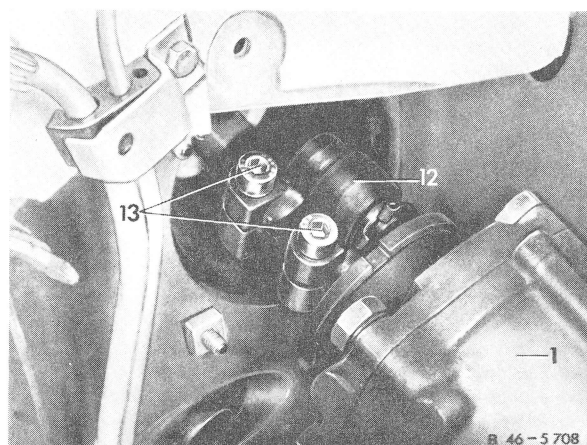

Fig. 1
- 2 Unscrew upper hexagon socket screw (13) from steering coupling (12) (Fig. 1).